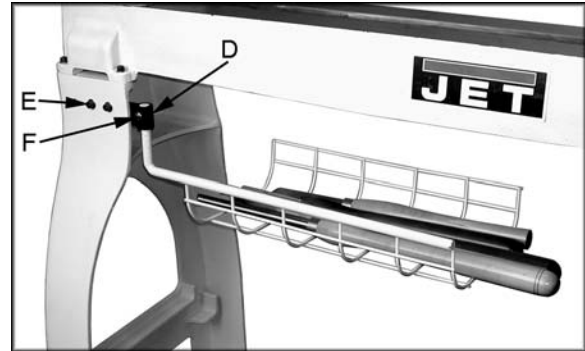

Figure 4
1. Mount the bracket (D, Figure 4) to the inside of the lathe leg with two 5/16"-18 x 1-1/2" hex socket cap screws, four 5/16" flat washers and two 5/16" hex nuts (E, Figure 4).
3. Place the arm of the tool basket into the bracket and secure with a 5/16"-18 x 5/8" set screw and tighten the 5/16" hex nut (F, Figure 4). Line up the notch in the arm with the setscrew so the tool basket can pivot.